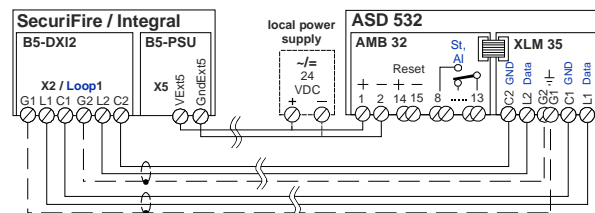

Fig. 25 Connection from XLM 35
- The connection and line routing between **XLM 35** and the SecuriFire and Integral FACP is to be carried out in accordance with **Fig. 25** (L1 to L1, C1 to C1, etc.).